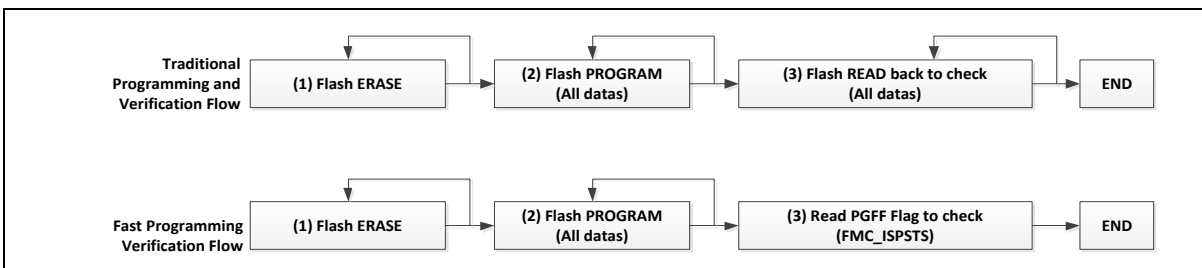

Figure 6.7-19 Verification Flow
In traditional Flash updated operation, the Flash memory has to perform three steps to complete the Flash memory updated procedure, (1) Flash ERASE (2) Flash PROGRAM (3) Flash READ back all of data to check the correction. In NuMicro® M2351 series, it only reads FMC_ISPSTS to check PGFF flag in Step (3) without reading data back to confirm. Figure 6.7-19 compares traditional programming verification flow and fast programming verification flow.